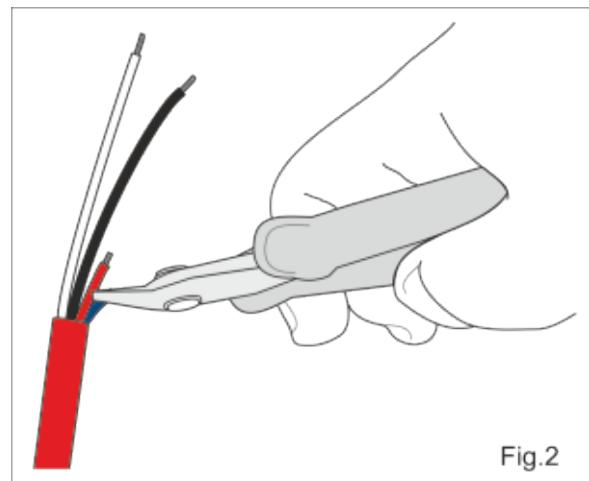

Fig.2
N.B. Take care to cut and insulate the ends that will not be used (see fig. 2).